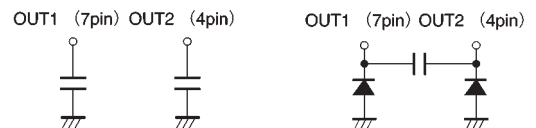

Fig.5
(13) The input pins (pins 2 and 10) have temperature-dependent characteristics. Take the temperature effect into consideration when using the IC.
(14) To eliminate motor noise, connect a capacitor between OUT1 (pin 7) and GND and between OUT2 (pin 4) and GND. Alternatively, connect a capacitor between OUT1 and OUT2, and also a diode between OUT1 and GND and between OUT2 and GND (see Fig. 5).